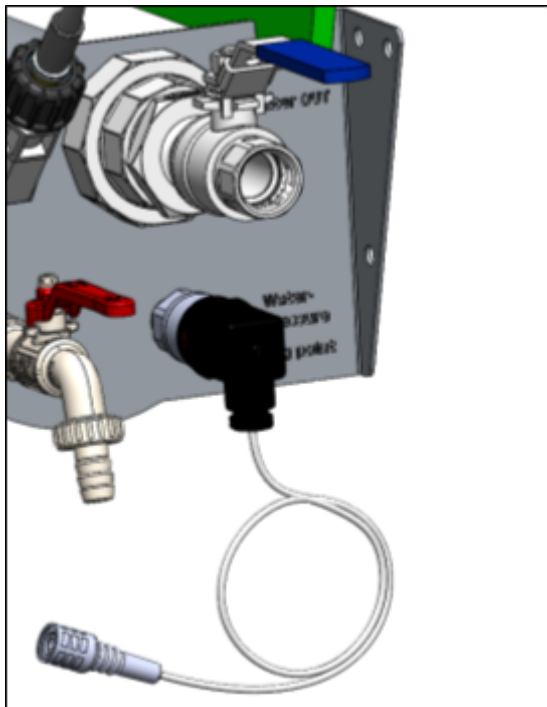

Figure 50.
3. Pressure sensor (Figure 50)